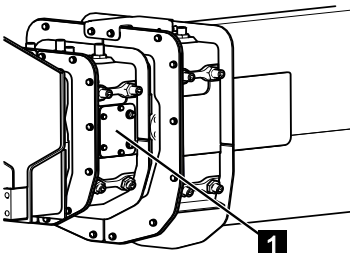

Fig. 255
- 3. Open the maintenance flaps (Fig.255/1) on both sides.